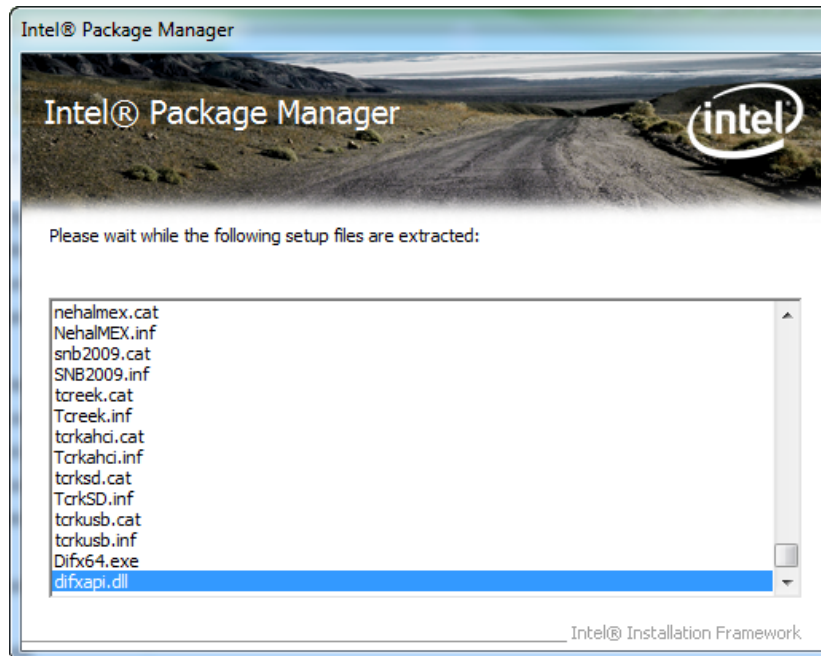

Figure 7-2: Chipset Driver Screen
- Step 4: The setup files are extracted as shown in **Figure 7-2**.